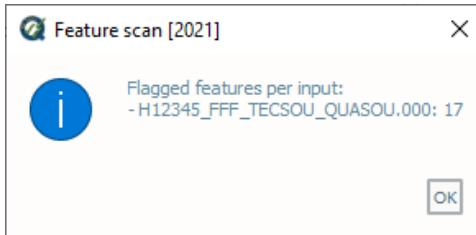

Fig. 2.44: The output message at the end of **Feature scan** execution.
- After computing, the output window opens automatically, the results are shown(Fig. 2.44).